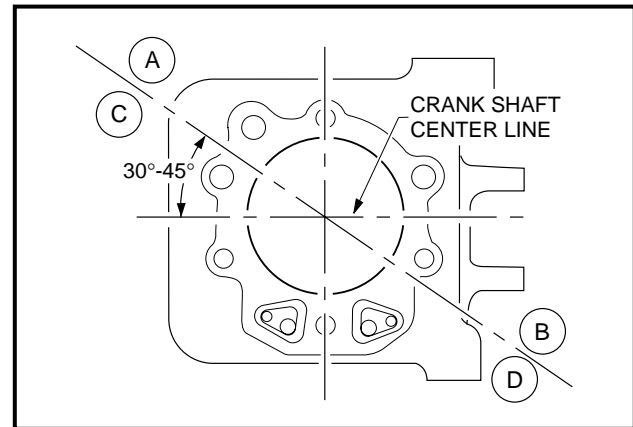

Figure 13-97 Piston Ring Gap Alignment
4. Put the piston/connecting rod into the cylinder bore with the lettering MADE IN JAPAN on the connecting rod oriented toward the flywheel side of the engine. Position piston ring gaps so that they are oriented toward the corresponding letters in (**Figure 13-97, Page 13-44**): (A) Top Ring Gap, (B) Second Ring Gap, (C) Upper Side Rail Gap, (D) Lower Side Rail Gap.